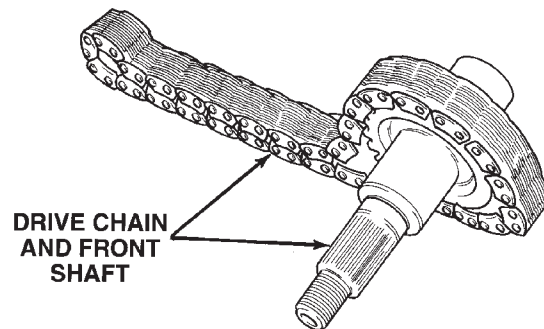

Fig. 21 Front Output Shaft And Drive Chain Removal
(3) Slide drive chain off mainshaft sprocket and remove front output shaft and chain as assembly (Fig. 21).